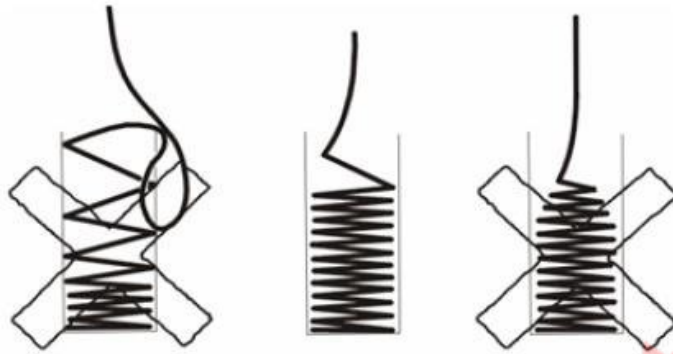

Figure 1.9-2 Diagram for Retraction and Release of Cable
- (3) Release about 5.2m cable, so as to connect the cable to the power box;
- (4) Pull out the cable from bottom of cable drum, draw it to the power box, and don't connect it immediately;
- (5) Place the cable round by round clockwise into the cable drum, and make efforts to maintain every round in the same size, with the diameter slightly less than that of cable drum;
- (6) Fix the cable onto the cable arm, and connect the cable connector to the corresponding connecting terminal;
- (7) Connect the cable to power box, and then start the hoist, so as to inspect whether the cable is coiled as indicated in Figure 1.9-2;